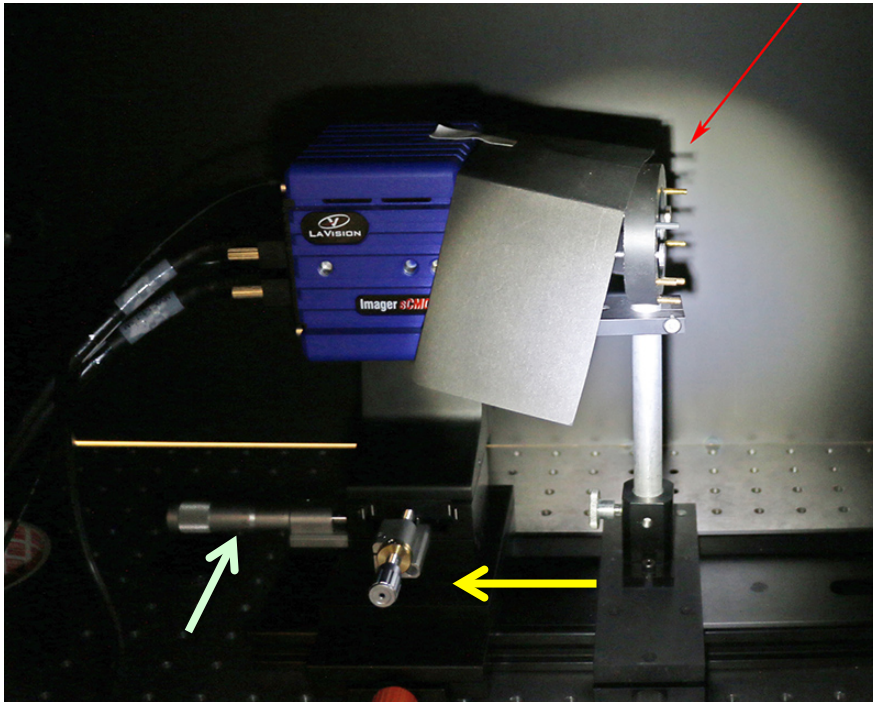
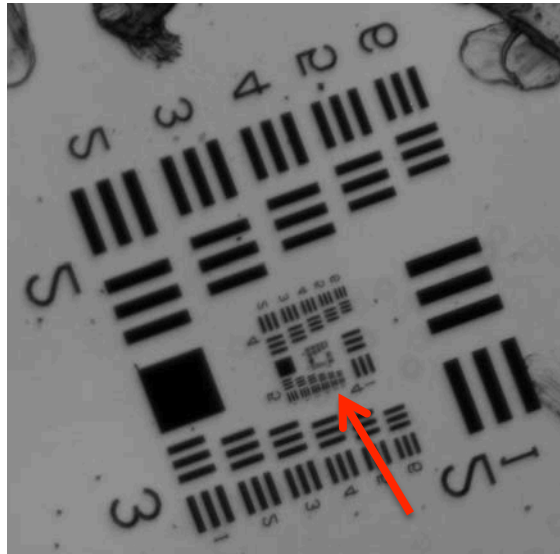

Figure 3: Location of prefilter (for camera with straight beam). The setup in front of the 2nd camera is identical.
Figure 13: Image of a target. The red arrow points to the group that should be resolved at 396 nm after proper focusing.
If desired, exchange the prefilters (red arrow in Fig. 3). Make sure to verify the prefilters before your observations, the labels may not be updated by everybody. Available prefilters include G-band (430.7 nm), blue continuum (450.5 nm) and Ca II H broad and narrow (396.8 nm). Any filter below ~ 500 nm can be used (or if using the folding mirror instead of the blue pentaprism: any filter below 650 nm). There is a narrow-band Ca II H filter in the „fridge“ at the VTT.
- Zoom in to see the middle target image in HiFi (see Fig. 13). Now shift the cameras along the rail either manually or using the micrometer screw (green arrow in Fig. 3), depending on the distance you need to change, until the target is maximally focused. You should be able to resolve the last element of group 5 (at 396 nm) or the second to last element of group 5 (at 450 nm) (red arrow in Fig. 13). "Resolve" means that you should be able to tell that there are 3 bars in that element.
- Move the cameras laterally and in height until the pinhole is at the above coordinates (± 20 pixels). They can be moved laterally using the screw indicated by the yellow arrow in Fig. 3. Moving in height is more difficult: on the lower side of the camera there is a hole for a small Allen wrench. In the HIFI cabinet, there is an Allen wrench which fits, or one can also use an Allen wrench from the tool boxes.